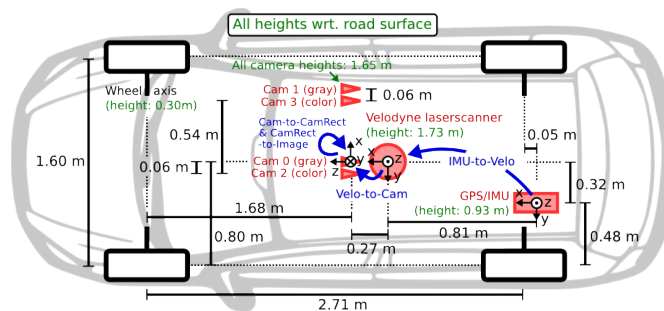

Figure 1: Camera setup.
- **image_2** is the RGB image received from left RGB camera (Cam 2 in Fig.1). A capture by the camera is triggered when the velodyne is looking exactly forward.